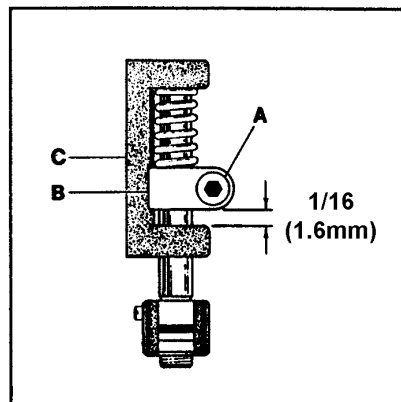

FIG. 31
To set spring pressure between the knives loosen screw (A, Fig. 31) and raise knife holder guide collar (B)  $1/16$ " (1.6mm) from knife driving bracket (C). Tighten screw (A).